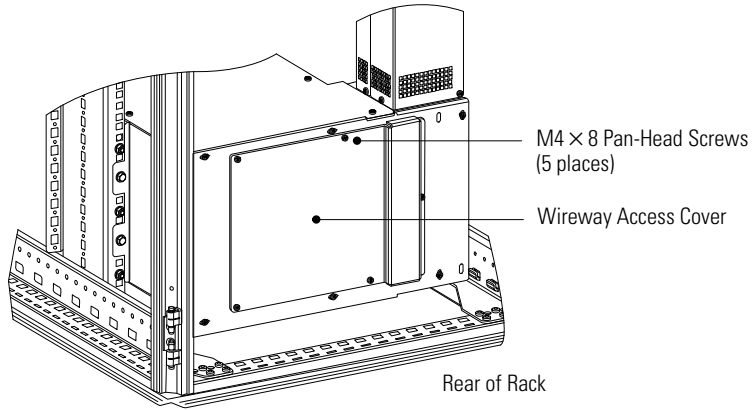

Figure 8. Wireway Access Cover Installation
- Using five M4 × 8 pan-head screws, install the wireway access cover. See Figure 8. Torque the screws to 1.7 ± 0.2 Nm (15 ± 2 lb in).